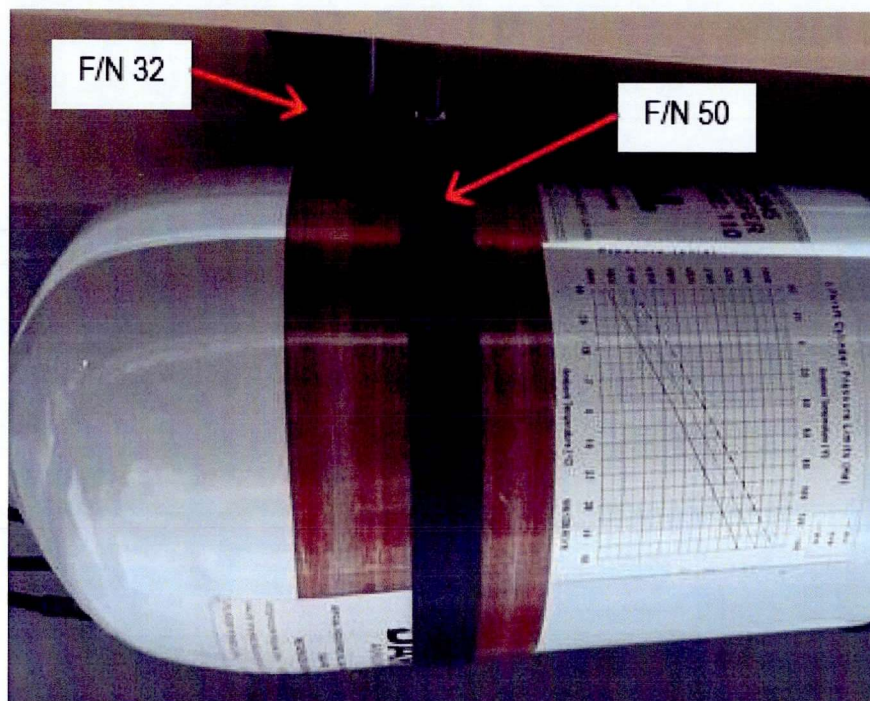

FIGURE 4: LIFERAFT RESERVOIR CLAMP ALIGNMENT
1. It is acceptable to install the clamp assemblies (F/N 50) such that the bolts are internal to the bracket assemblies (F/N 32) to prevent interference with passenger entry. Reference Figure 4 of this DSI for optional clamp orientation.